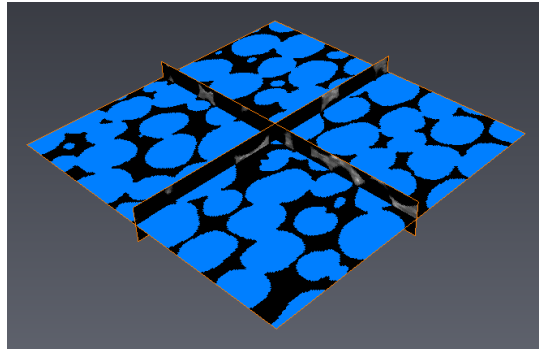

Figure 6.6: Binary image displayed with an *Ortho Slice*
- Connect the first *Ortho Slice* to the thresholded data. See the resulting display on Figure 6.6.